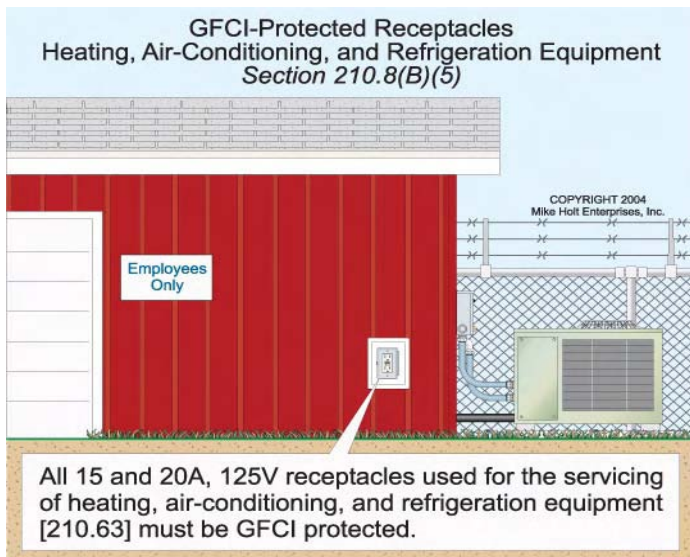

Figure 210–29
(5) Heating, Air-Conditioning, and Refrigeration Equipment. All outdoor 15 and 20A, 125V receptacles installed at an accessible location for the servicing of heating, air-conditioning, and refrigeration equipment in accordance with 210.63 must be GFCI protected. **Figure 210–29**